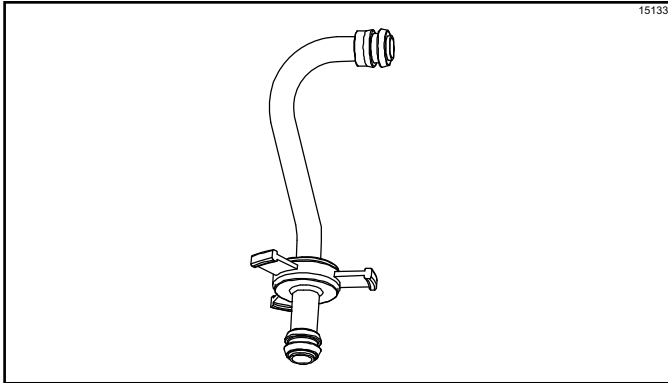

Figure 6-33
10. Assemble the feed tube assembly. Slide the check ring into the groove of the feed tube. (See Figure 6-33.)